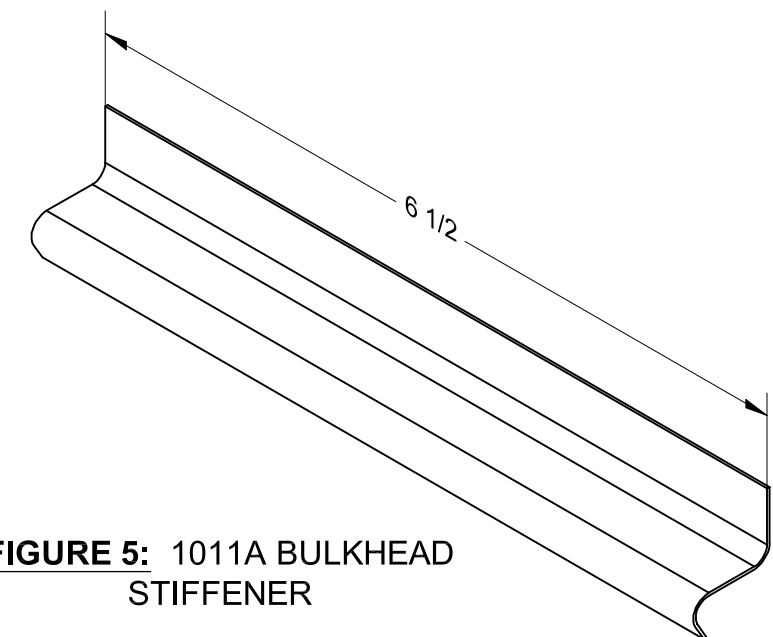

FIGURE 5: 1011A BULKHEAD STIFFENER
Step 6: Cut the F-1011A Bulkhead Stiffener, using the dimension shown in Figure 5, from one of the six foot lengths of J-channel provided in the kit. Deburr the edges.